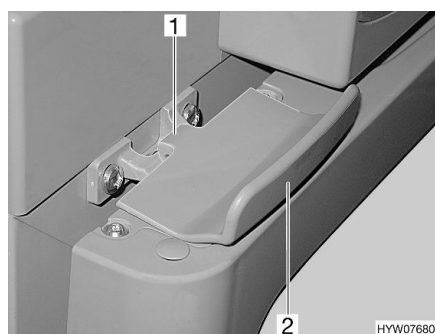

Fig. 94 Lock of refrigerator door, closed (Thetford)
- Open the refrigerator door at the handle (Fig. 94,2). The lock (Fig. 94,1) is released automatically.